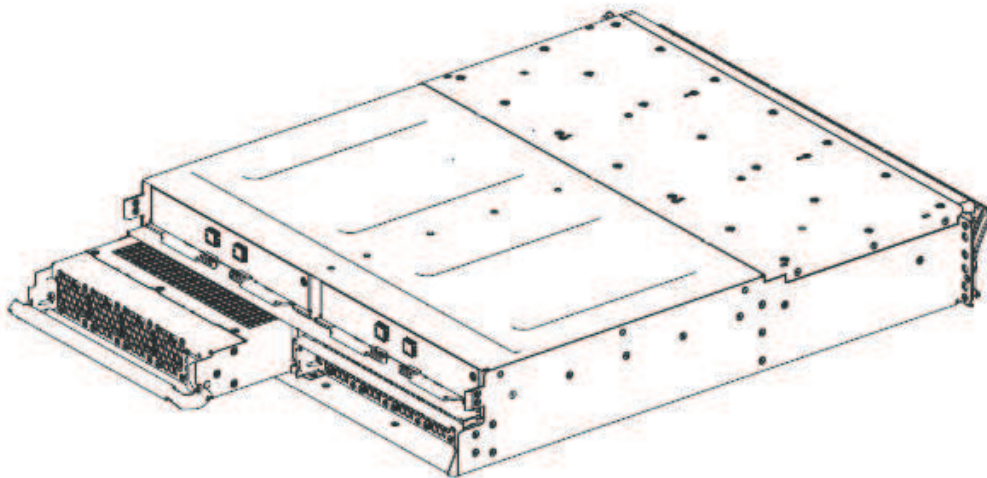

Figure 26. Removing the power supply unit from the left side of the expansion enclosure
5. Using the handle, gently slide the power supply out of the enclosure, as shown in Figure 26.